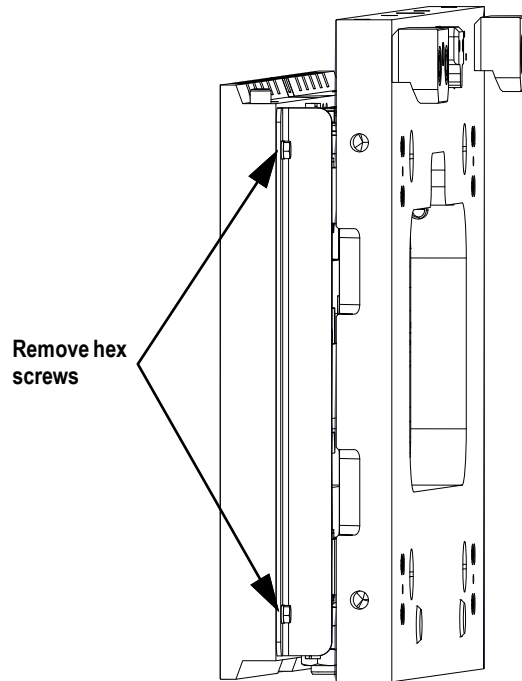

Figure 6-3. CLS Scale Side Cover
3. Remove the two hex screws securing the protective side cover with a 7/16 in socket wrench (see Figure 6-3).